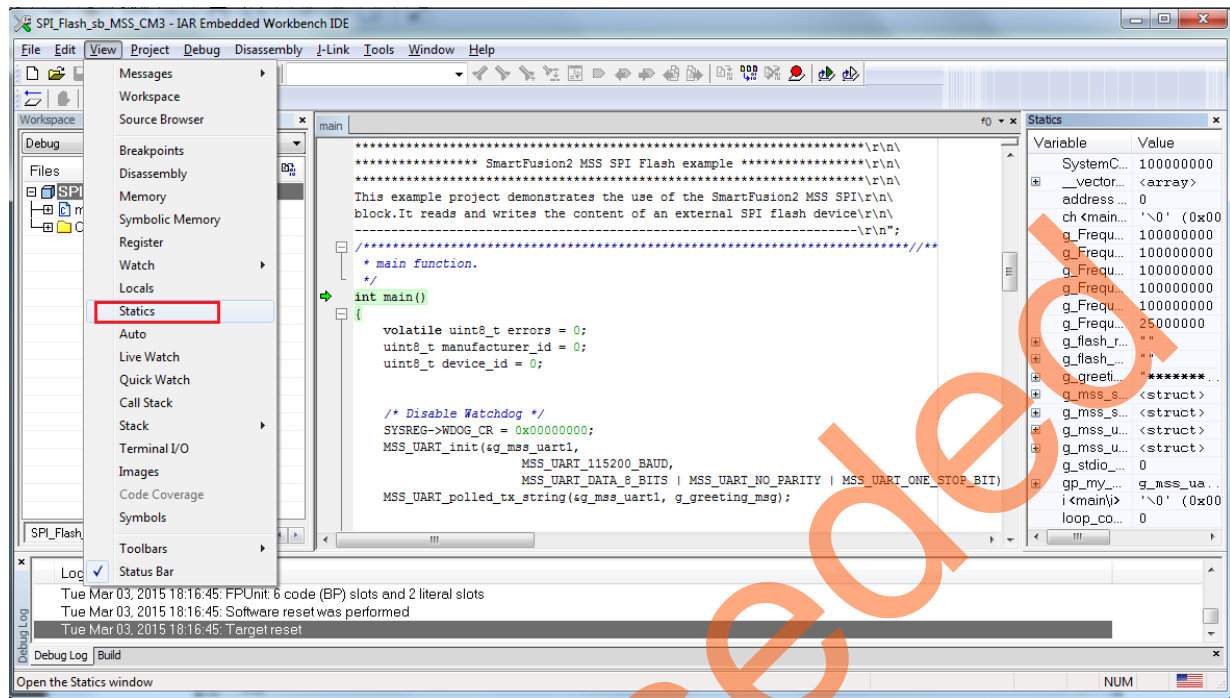

Figure 46 • Values of Source Code Variables
8. Click **View > Statics** to view the values of variables in the source code as shown in Figure 46.